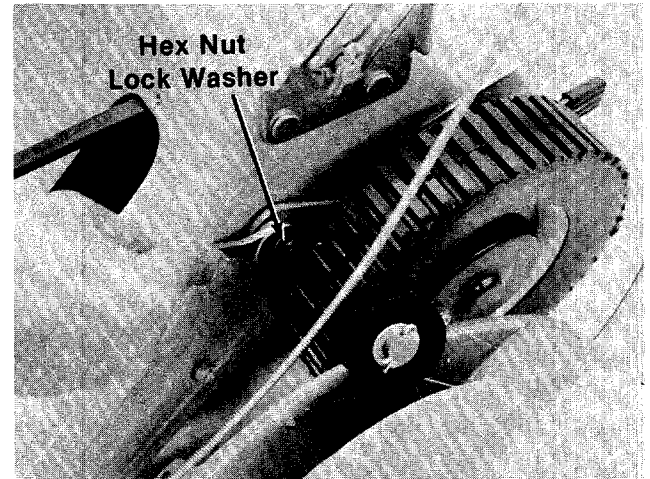

FIGURE 26.
5. Remove hex nut and lock washer from height adjustment lever on left side of mower as shown in figure 26.